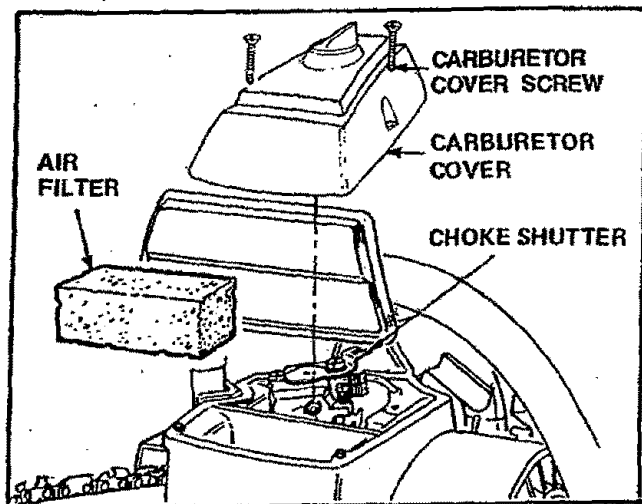
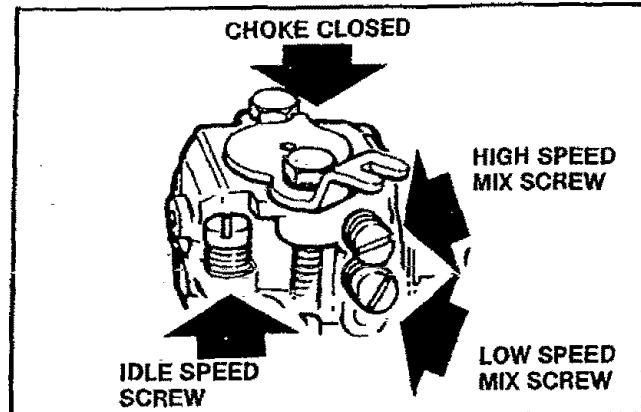

Figure 42
Figure 50
2. Remove the carburetor cover screws and carburetor cover. Figure 42.
- d. Remove the carburetor cover screws and carburetor cover (Figure 42) and locate the three (3) carburetor adjusting screws. Figure 50.